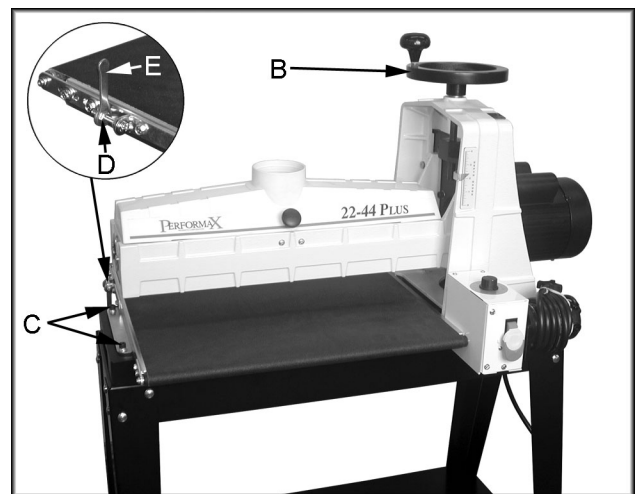

Fig. 2
3. Raise the drum by turning handwheel (B, Fig. 2) clockwise.
5. Secure conveyor in place with four 5/16"-18 x 3/4" socket head cap screws (C, Fig. 2), four 5/16" lock washers and four 5/16" flat washers.
Drum height is controlled by the height adjustment handle (B, Fig. 2). Turning handwheel in a counter-clockwise direction lowers the drum.
After the PowerFeed unit has been installed adjust the hex nuts (D, Fig. 2) on both sides of the conveyor to obtain a tight, and equally tensioned conveyor belt. Use the attached wrench (E, Fig. 2) to adjust the hex nuts.